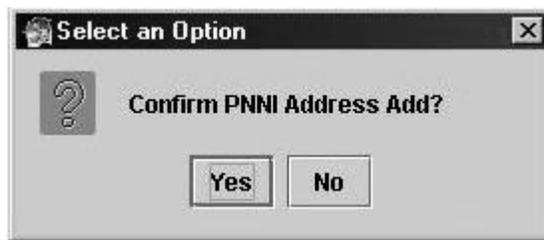

Figure 8-8: Confirm Add New Exterior IISP Address Dialog
9. Click **NEW**. The Select an Option dialog displays. See Figure 8-8.